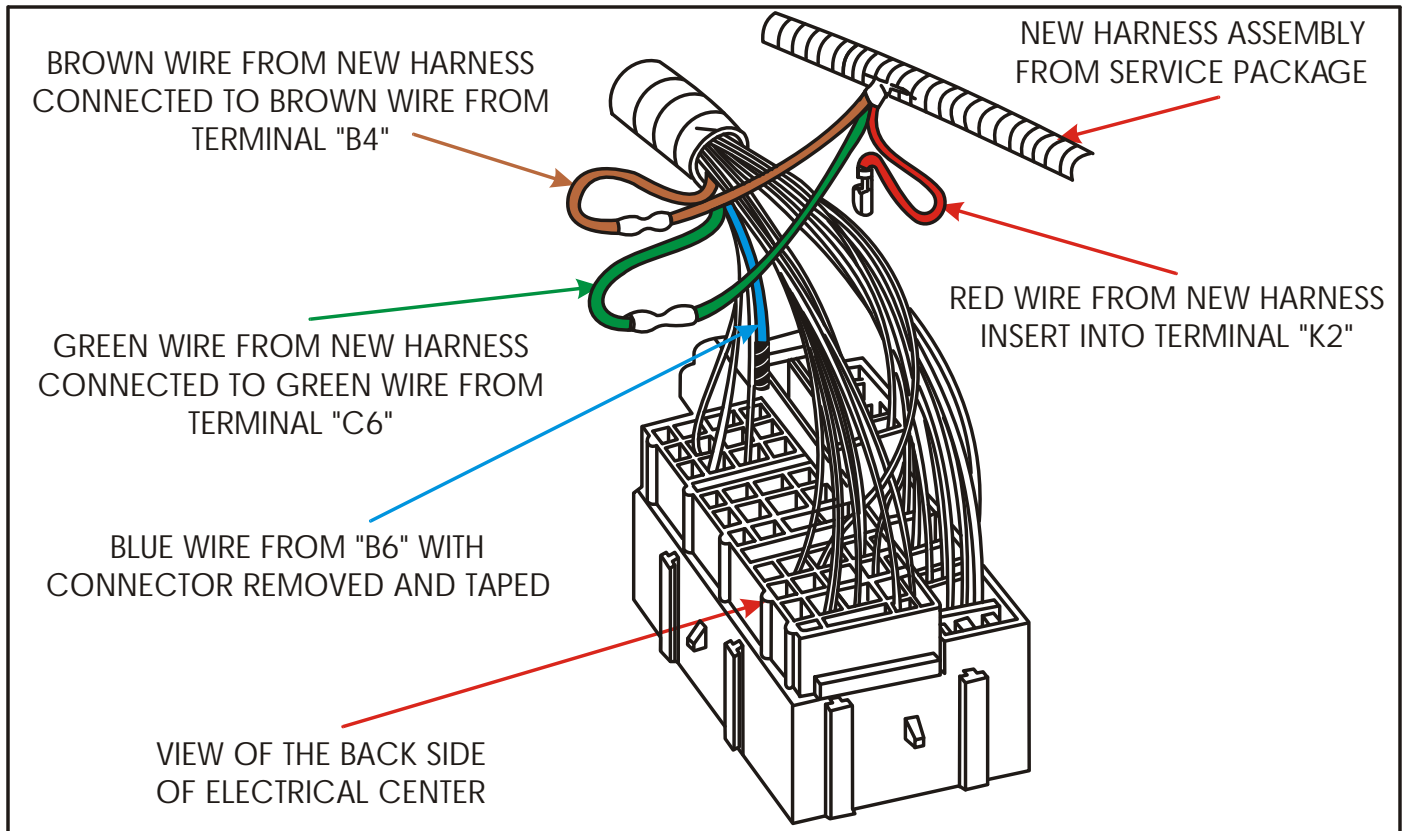
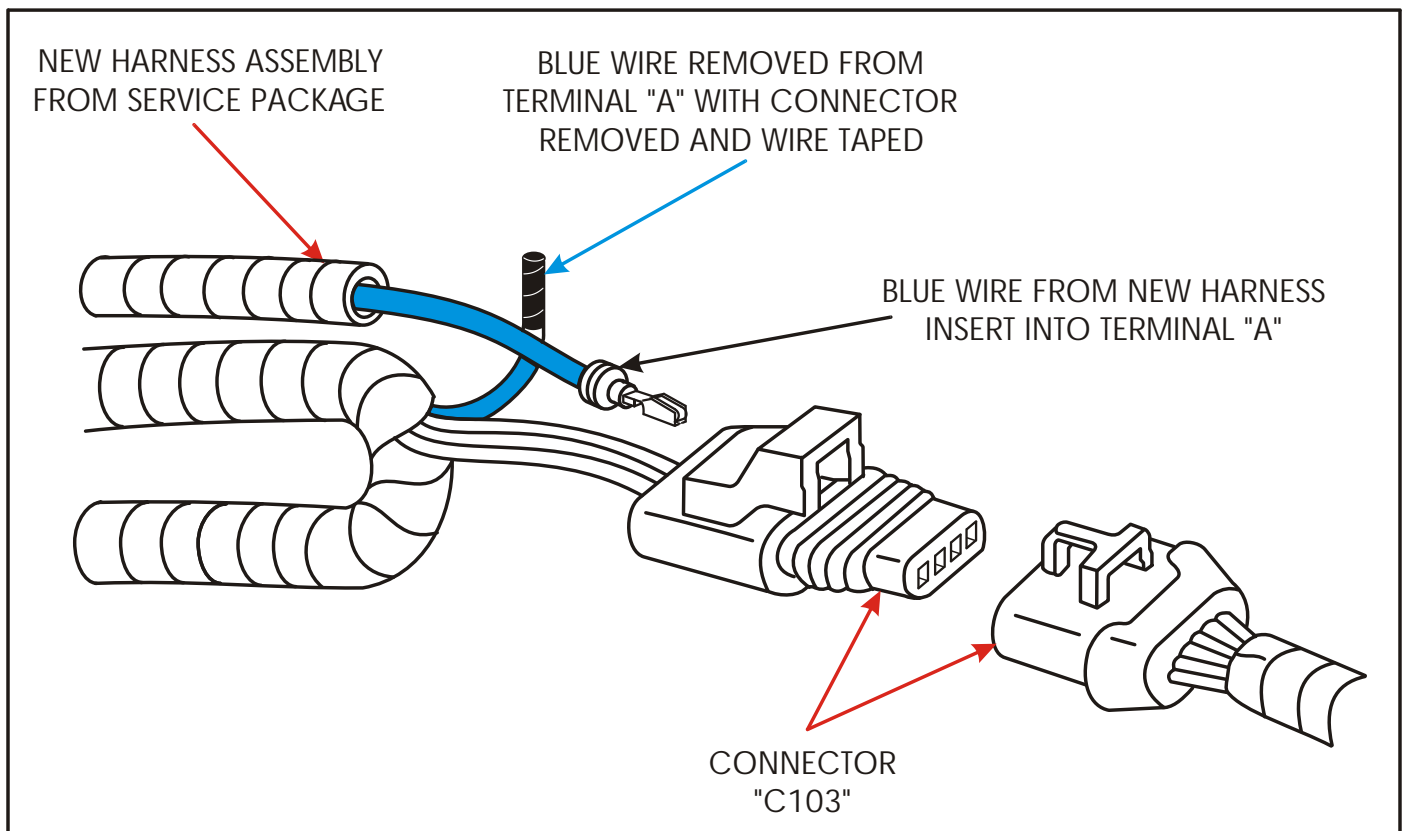

Figure 5
Figure 6
- (7) Locate the new cooling fan relay and harness assembly from the service package, and insert the "Red" wire and terminal into cavity "K2" of the Electrical Center, as shown in Figure 5. Cut the old terminal ends from the "Brown" and "Green" wires that were previously removed from the Electrical Center in Step 5, and discard. Using the crimp connectors from the service package, connect the "Brown" wire from the new harness assembly to the "Brown" wire removed from terminal "B4", as shown in Figure 5. Using the remaining crimp connector from the service package, connect the "Green" wire from the new harness assembly to the "Green" wire removed from terminal "C6", as shown in Figure 5. Heat shrink the connections to insure a water tight seal, and reinstall the Electrical Center into the case.
- (8) Reinstall the 40 Amp, number 12 Maxi-fuse.
- (9) At connector number "C103", install the "Blue" wire and terminal from the new harness assembly into cavity "A", as shown in Figure 6, and plug the connector back together.